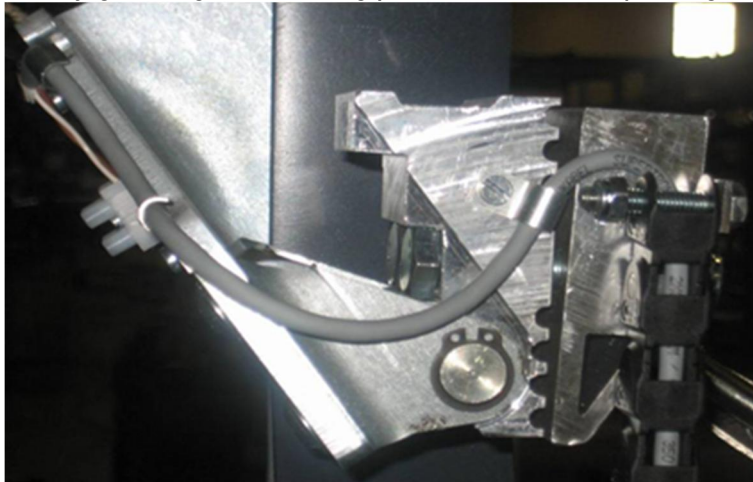

Figure 4
3. Routing the cable on the bracket. The Spiral LH door has a pivot built into the bracket to allow the bottom panel to clear the opening. **IMPORTANT:** Installation of the cable must allow for the pivot during door travel. Failure to allow for the pivot may cause the cable to break. If the has too much slack it may get caught in moving parts on the door. (See Figure 4).